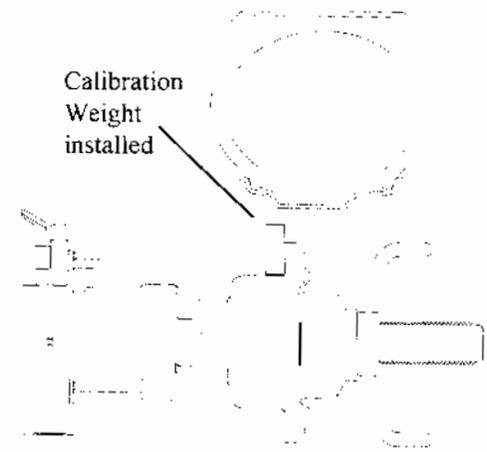

Figure 1
3) The display will read "CAL SLU". Attach the calibration weight in the threaded hole from the inside edge. *Figure 1*